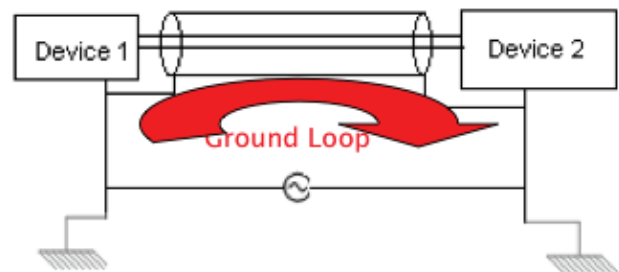

Figure 4.3-15. Example of Ground Loop caused by voltage difference between equipment grounds at two ends of a shielded cable.
**Ground Loop Concerns.** A ground loop can form when there is a different voltage potential between two ends of a cable (see Figure 4.3-15). The concern is that even a small voltage difference can result in high enough noise currents to cause coupling to cables. In some cases, this voltage can be quite high and cause real concern about communication disruptions - even equipment damage. This fear leads to common wisdom to only ground one end of a shielded cable. However, this common wisdom falls down for high frequency noise mitigation where inductive and capacitive effects prevent a single point ground from effectively reducing noise voltages.